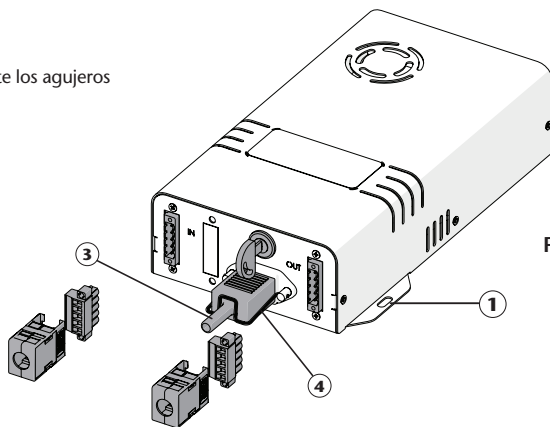

Fig. 3
Wire the supplied IEC connector (3). To avoid the accidental disconnection of the equipment, remember to place the retention kit (4) in the position shown in the figure 3.